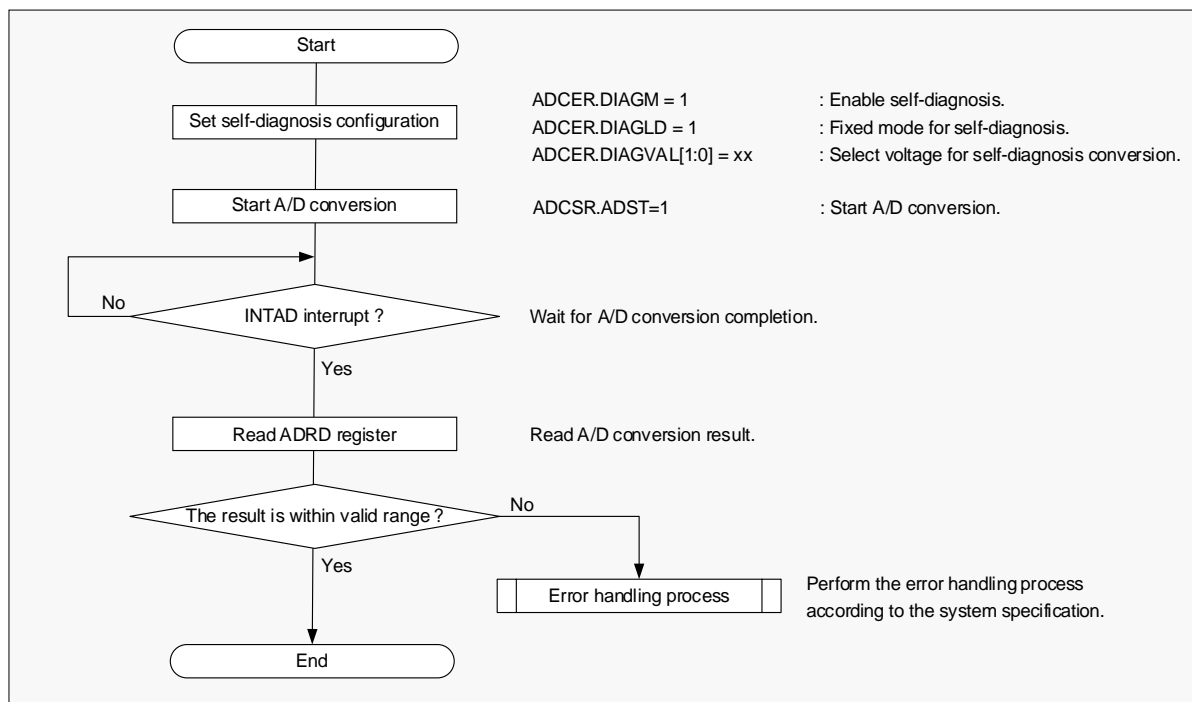

Figure 13-2 Flow Chart of A/D Test Function (Self-test function)
Figure 13-2 is the flow chart of the A/D test function (Self-test function).
P.55	Revised "Figure 13-2 Flow Chart of A/D Test Function (Self-test function)".